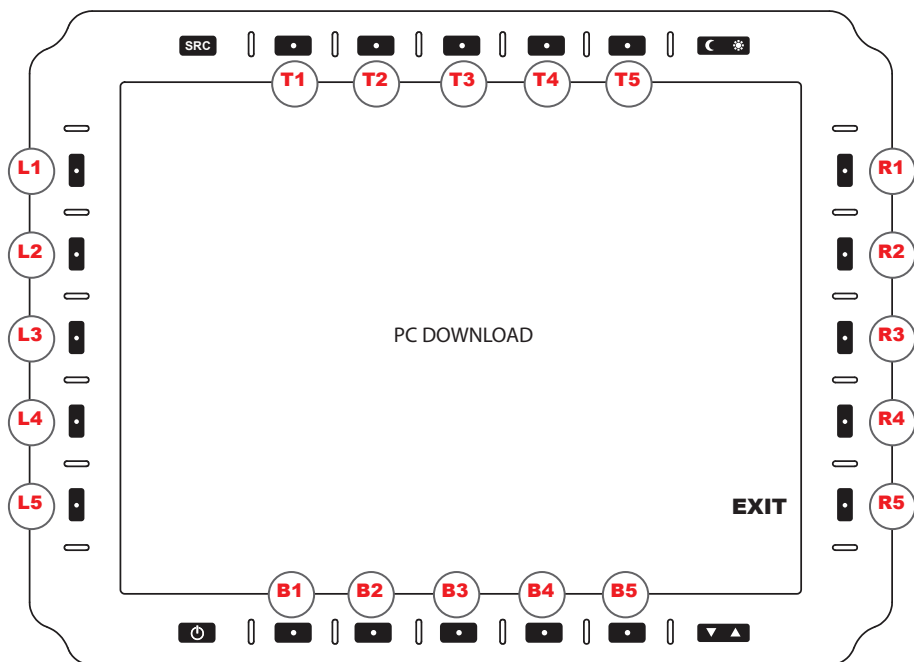

Figure 16
PC DOWNLOAD (B5). Use the shaded Arrow DOWN icon key to open the submenu PC Download (Figure 16).
Video Files may be transferred from DVR to a PC (laptop or computer) using the USB ports. In PC Download Mode (Figure 16), Display appears as a remote disk drive when connected to a PC. Caution! Do not connect USB cable between Display and PC until Display reads PC Download Mode.
- Screen message banner reads PC DOWNLOAD (above, Figure 16)